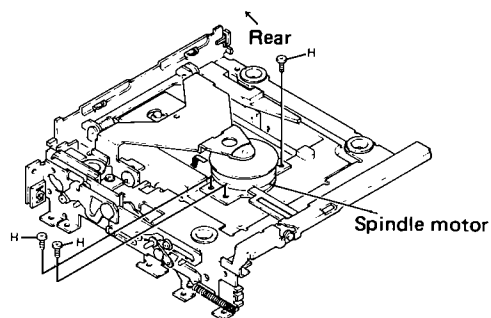

Fig. 24
• **Spindle Motor Removal (Fig. 24)**